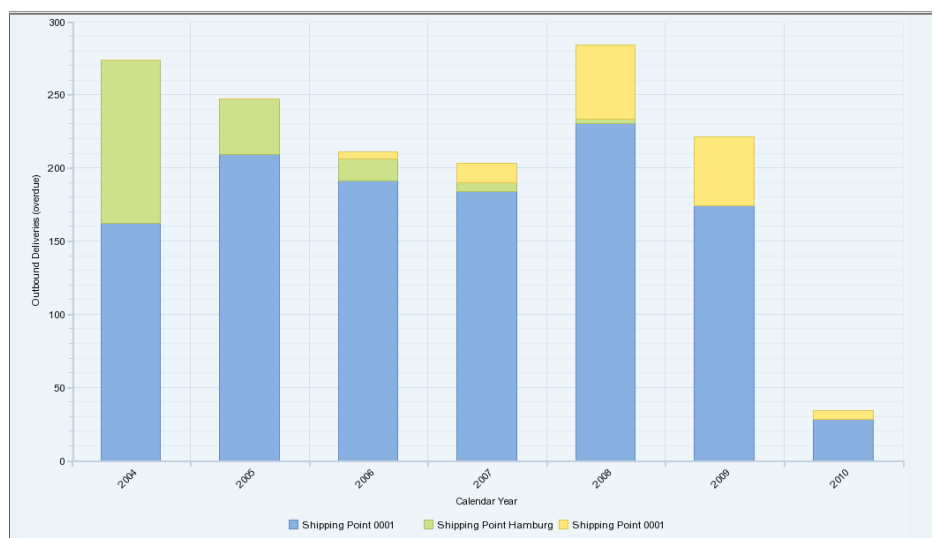

Figure 6: Age Analysis; open Deliveries by year (SAP AG 2014)
- Age Analysis:** A large backlog of records identified during the benchmark activity does not necessarily constitute an issue with process execution. This could be representative of a business that simply processes large numbers of records. The next step is to perform an Age Analysis of the benchmarked results. SAP Solution Manager will provide an age distribution of the records, allowing you to identify where a backlog really does exist and where further investigation is required. For example, if your SAP system contains a large number of open Deliveries that were created 2, 5 or perhaps even 10 years ago are they really still valid? Is this symptomatic of the business process not being carried out as intended or is it simply bad data? This information is the starting point of the Root Cause Analysis process (see Figure 6- Age Analysis).